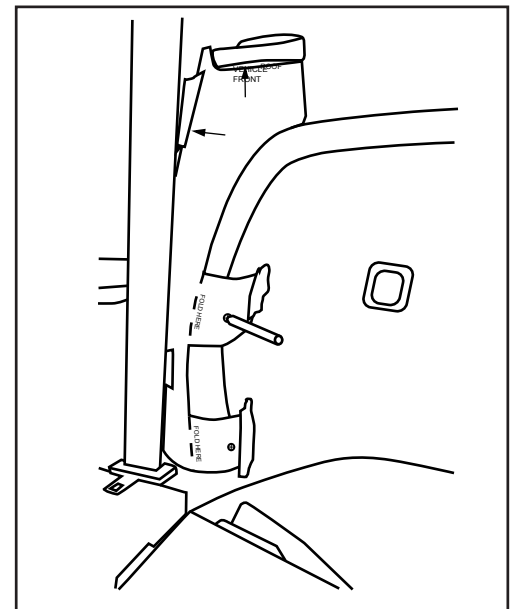

Fig. 4
5. Using the grease marker, mark ALL locations that are to be drilled. Remove the template (Fig. 4).